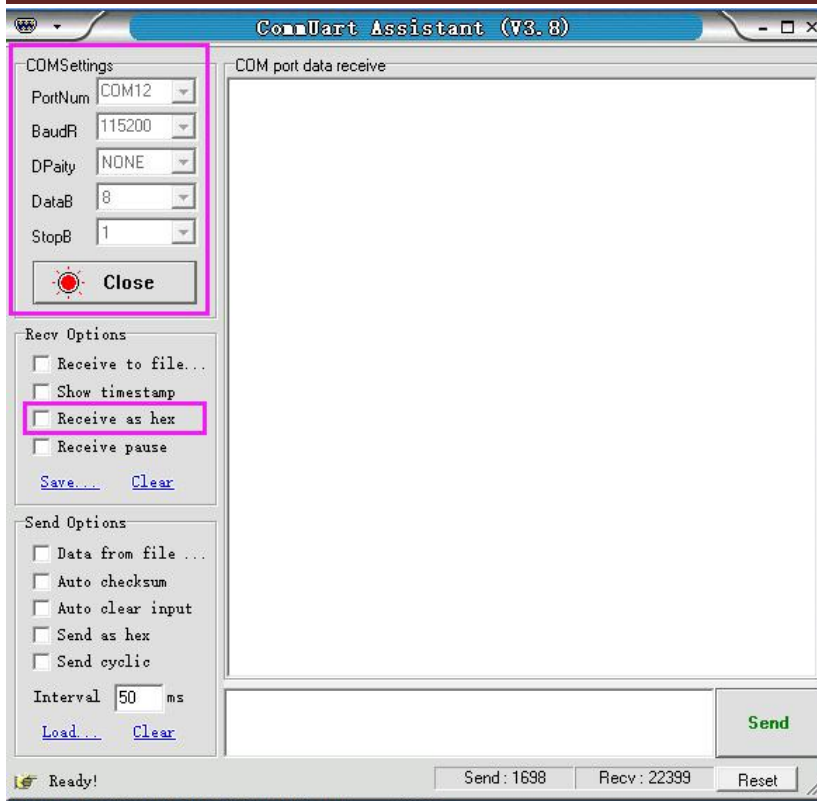

Figure 2.7
**Note:** DONOT select the "Receive as hex" option. As shown in Figure 2.7: